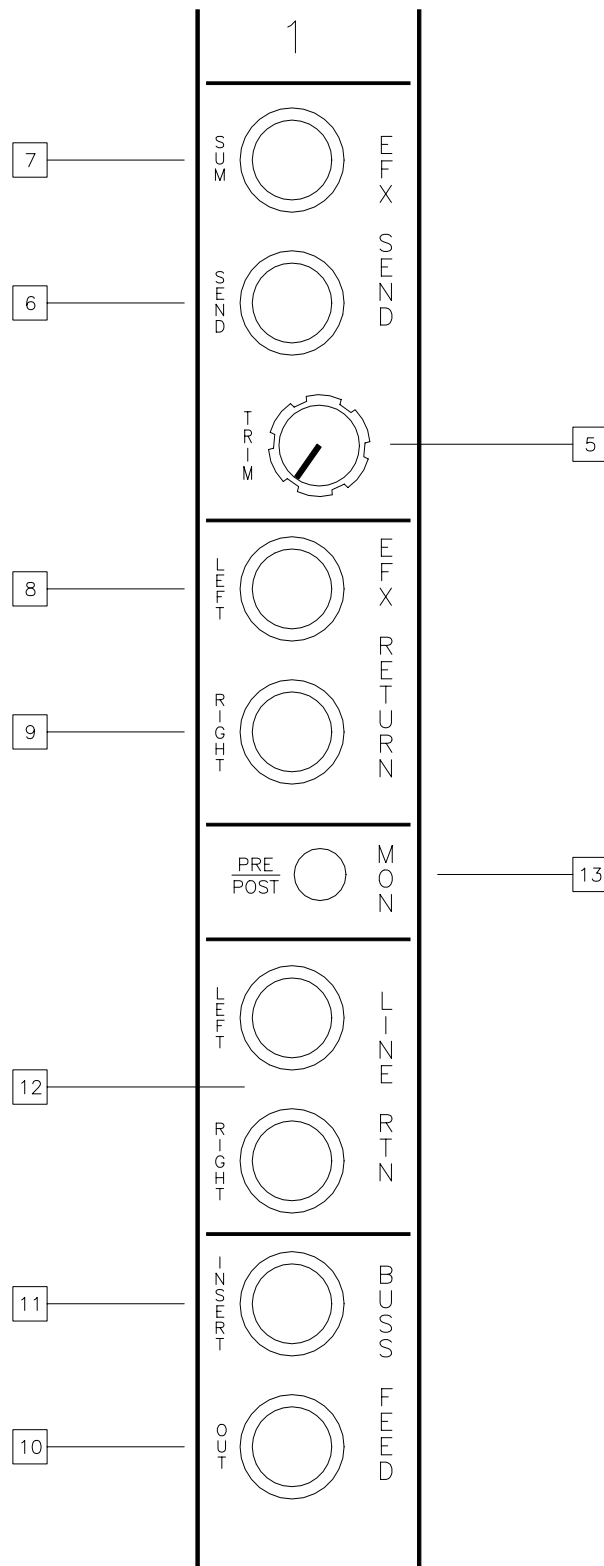

Figure 8. Effects, Monitor, and Subgroup Connectors
*Refer to Figure 8 for location of items 5 thru 13*